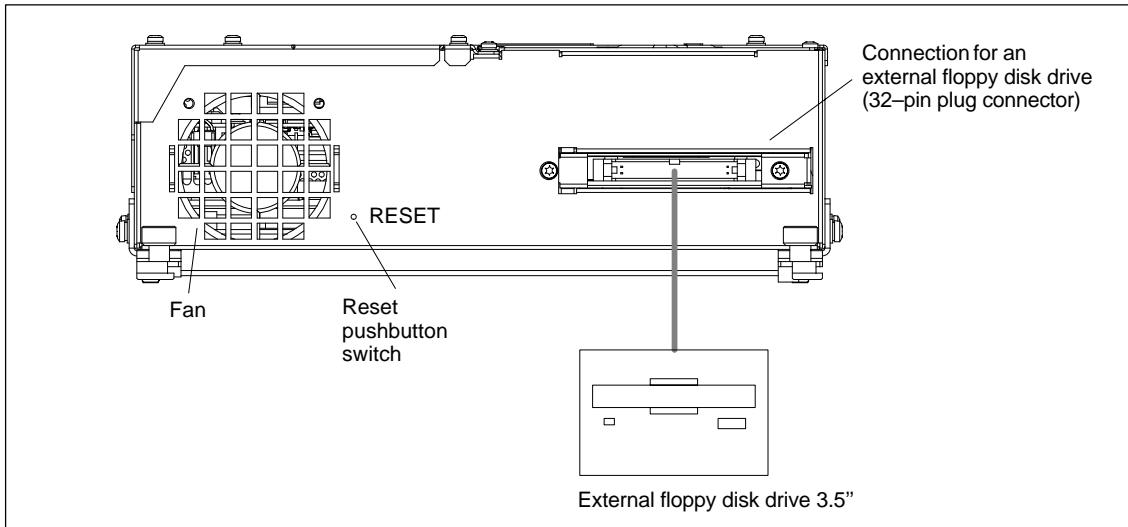
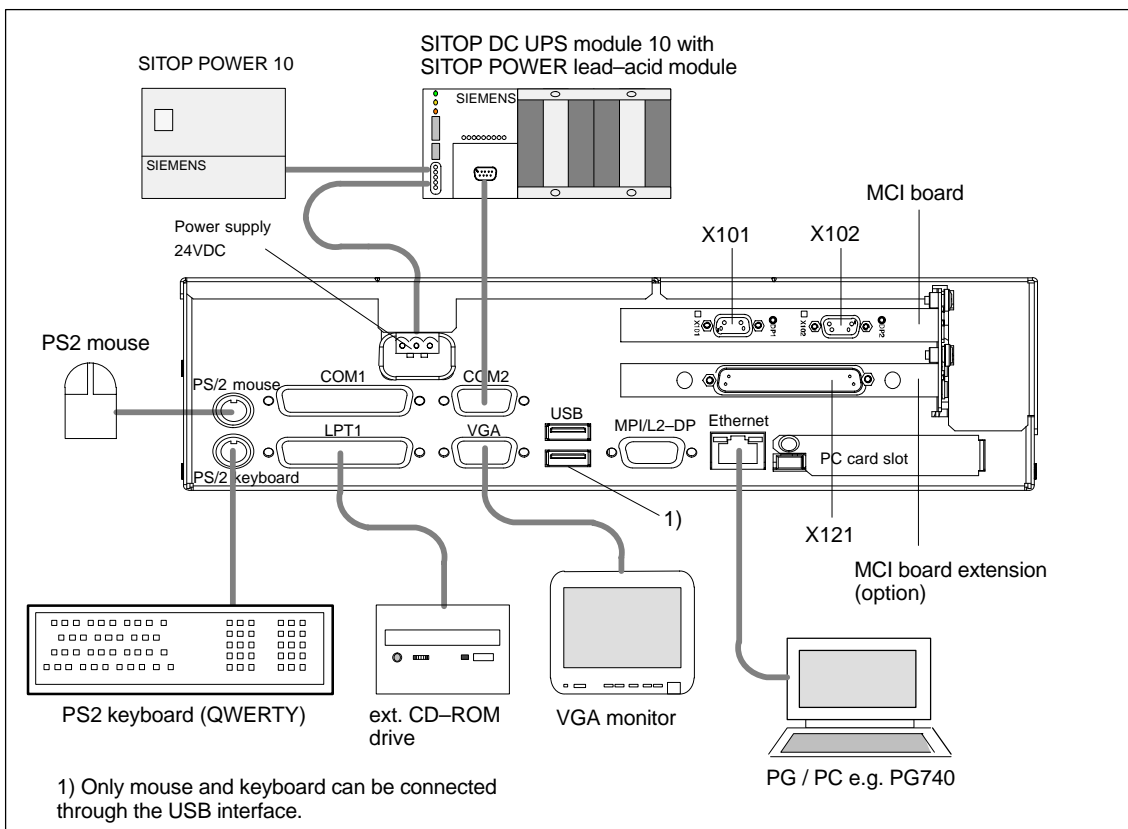

Fig. 3-6 SINUMERIK 840Di PCU 50, left housing side
Fig. 3-7 SINUMERIK 840Di PCU 50 (right housing side)
- 5) For an overview of the standard PC interfaces, see Fig. 3-6, Page 3-95 and Fig. 3-7, Page 3-95.